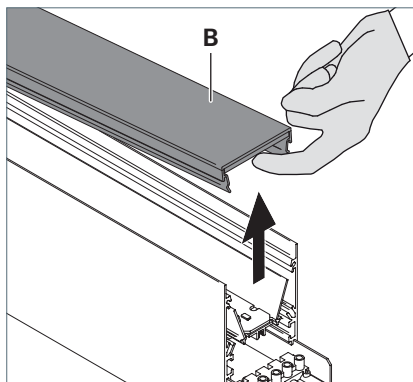

Fig. 18: Removing the cover.
- Remove the cover **B** on the side of direct light emission, see Fig. 18.